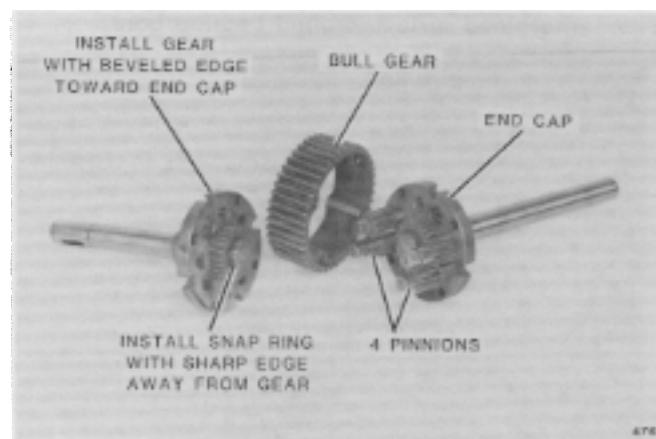

FIG. 31. Differential Disassembly
2. Differential assembly should be disassembled for inspection during a general overhaul. Check for loose hardware, cracks, enlarged holes, and gear wear or damage (Fig. 31). Note that adjacent differential pinions are installed in opposite directions (teeth up, teeth down, teeth up, etc.).